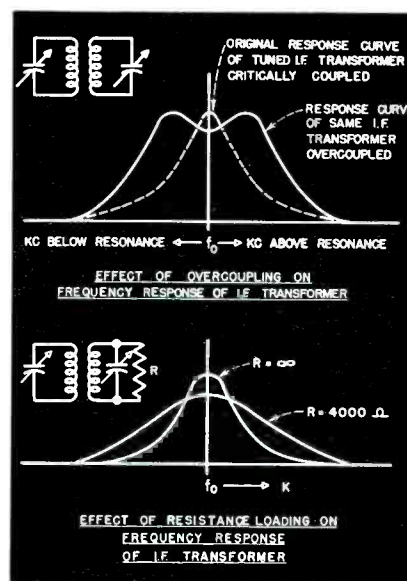

Figure 2
1. The r-f and i-f transformers must be capable of amplifying without attenuation frequencies that are 100 kc on either side of the resonant frequency of the carrier. This is generally accomplished by using overcoupled tuned circuits, loading resistors connected in parallel with tuned circuits, or both. See Fig. 2.